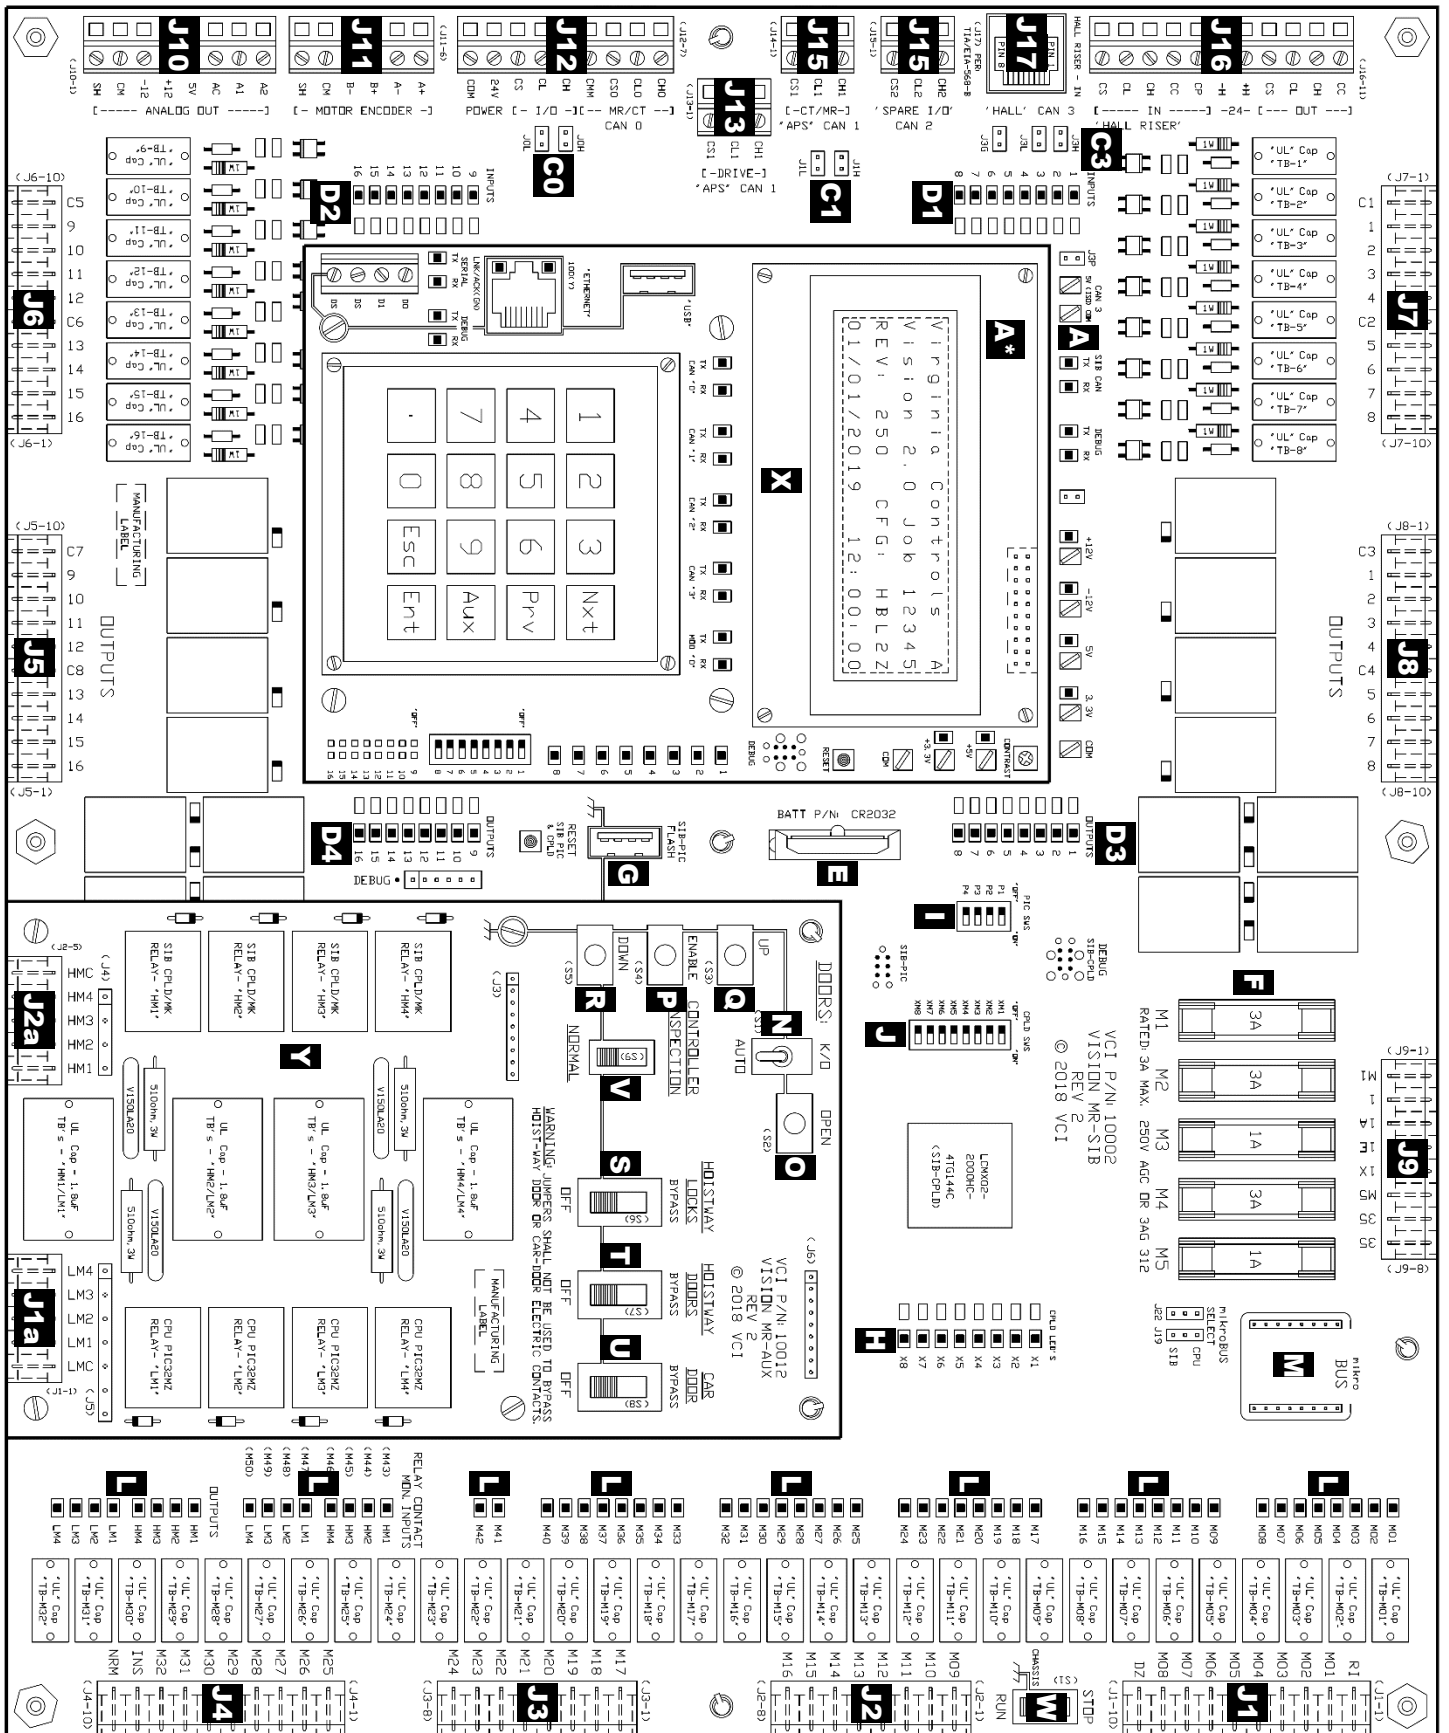
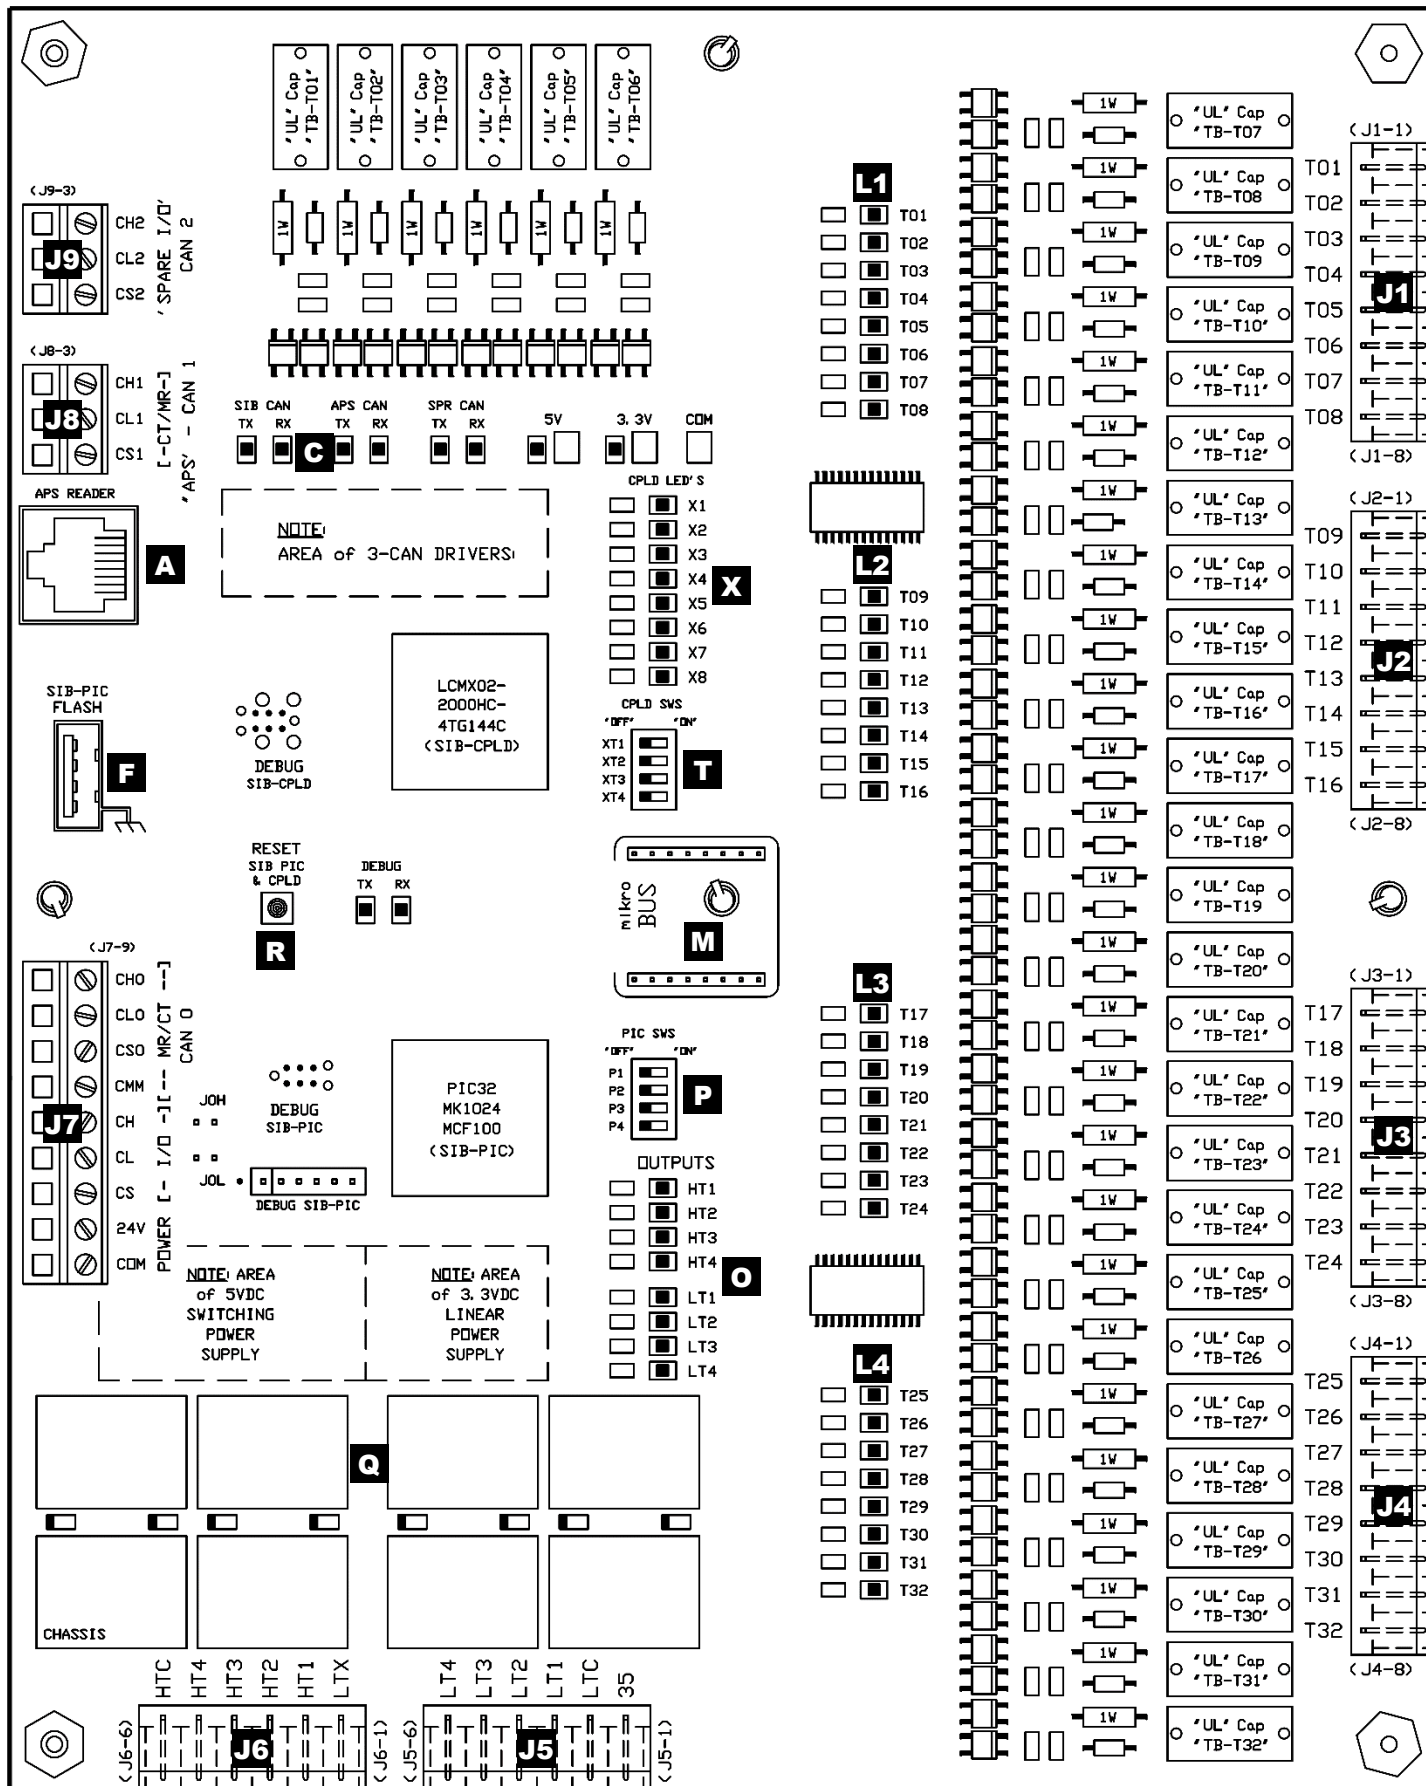

Figure 38: Machine Room Safety Interface Board (MR-SIB) layout.
Figure 39: Car Top Safety Interface Board (CT-SIB) layout
The Machine Room Safety Interface Board (MR-SIB) layout is shown in Figure 38 and the descriptions in Table 11.
**Table 11: MR-SIB Layout Descriptions from Figure 38.**
The Car Top Safety Interface Board (CT-SIB) layout is shown in Figure 39 and the descriptions are in Table 12.
**Table 12: CT-SIB Layout Descriptions from Figure 39.**
(See MR-SIB items A, A\*, C0, C1, C3, J13 – J17 in Figure 38)
(See CT-SIB items J7, J8, J9 in Figure 39)
The MR-SIB acts as a hub for connecting CANbus between the controller CPU, I/O boards, CT-SIB, and Absolute Positioning System (channel A). All CANbus connections are made at the left of the MR-SIB, as seen in Figure 38. The MR-SIB is equipped with 4 CANbus channels.
The CT-SIB acts as a hub for connecting CANbus between the MR-SIB, I/O boards, and Absolute Positioning System (channel B). All CANbus connections are made at the left of the CT-SIB, as seen in Figure 39. The CT-SIB is equipped with 3 CANbus channels.
(See MR-SIB & CT-SIB items J1 – J4, L in Figure 38 & Figure 39)
(See MR-SIB items H, J in Figure 38)
(See CT-SIB items X, T in Figure 39)
(See MR-SIB item F in Figure 38)
(See MR-SIB item E in Figure 38)
The RTC is powered by a CR2032 3V battery (see item E in Figure 38). The battery life is approximately 5 years.
(See MR-SIB item O in Figure 38)